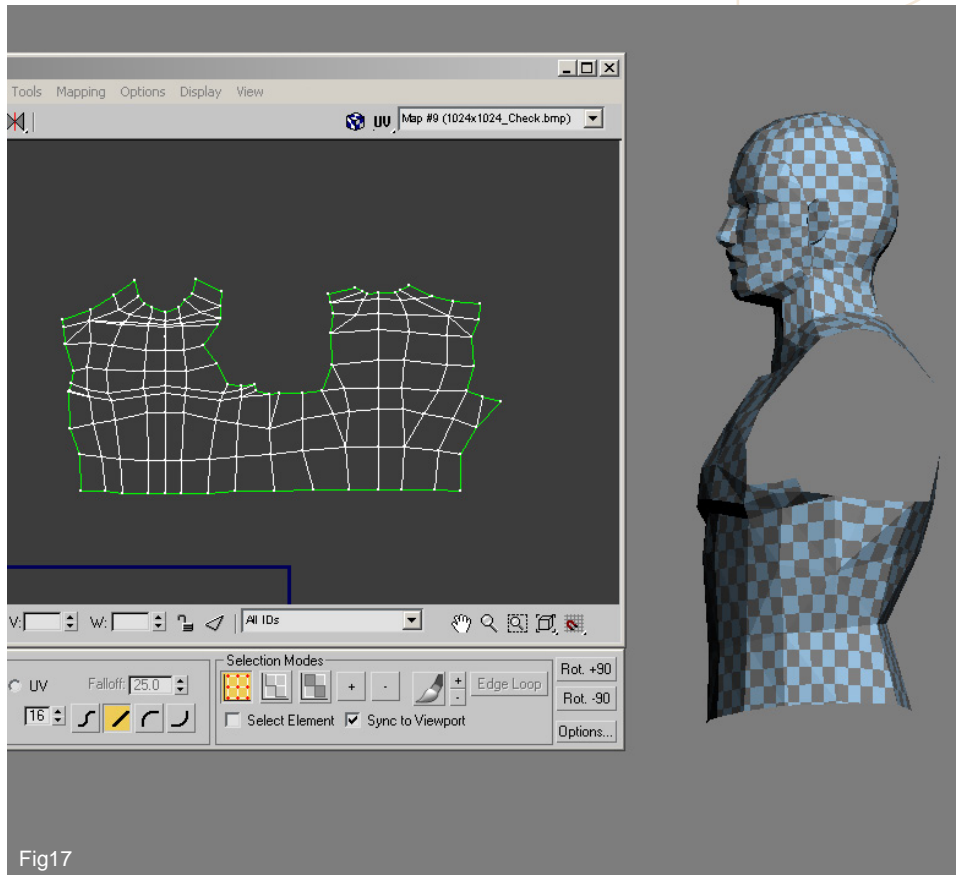

Fig17
17. In Fig 17 you can see that the verts have now been welded and the section scaled to make it more consistent with the head. You will have to re adjust the verts in the Edit window once welded in order to reduce some of the distortion.